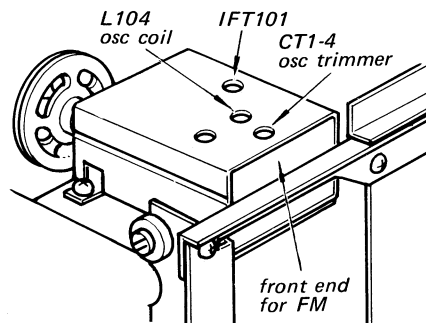

Fig. 3-10. Adjustment locations
3. IFT101 shown in Fig. 3-10 is to be adjusted for i-f alignment. Adjust IFT101 for maximum meter reading on VTVM with the same setup as FM frequency coverage adjustment.